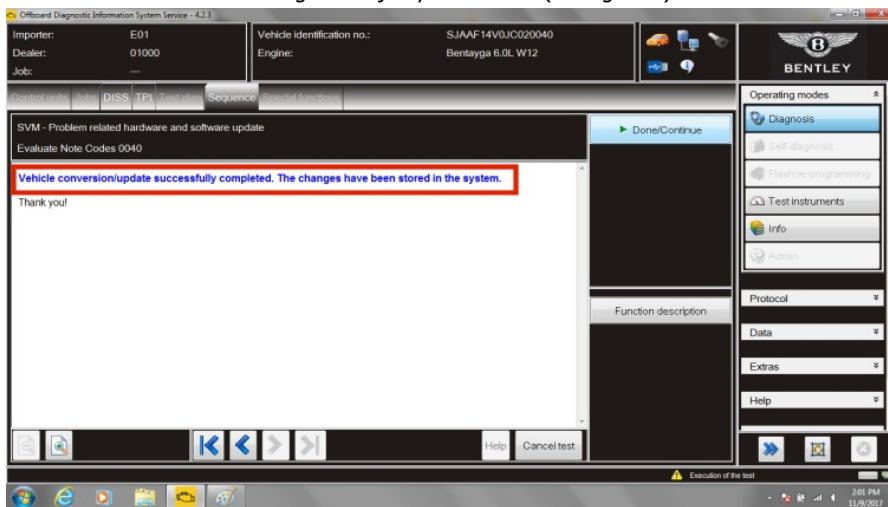

Figure 6
- Once the update program has completed for all four control units, figure 6, follow the screen prompts to perform the automatic SVM and complete the update